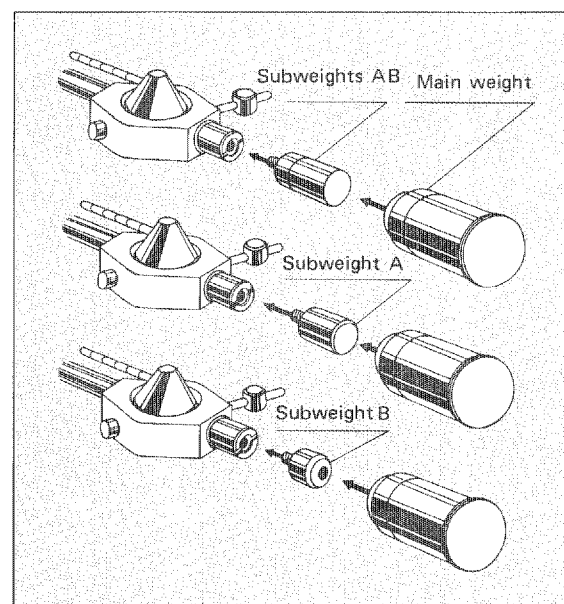

Fig. 23
- Screw the subweight(s) onto the rear of the tone arm. (Fig.23)